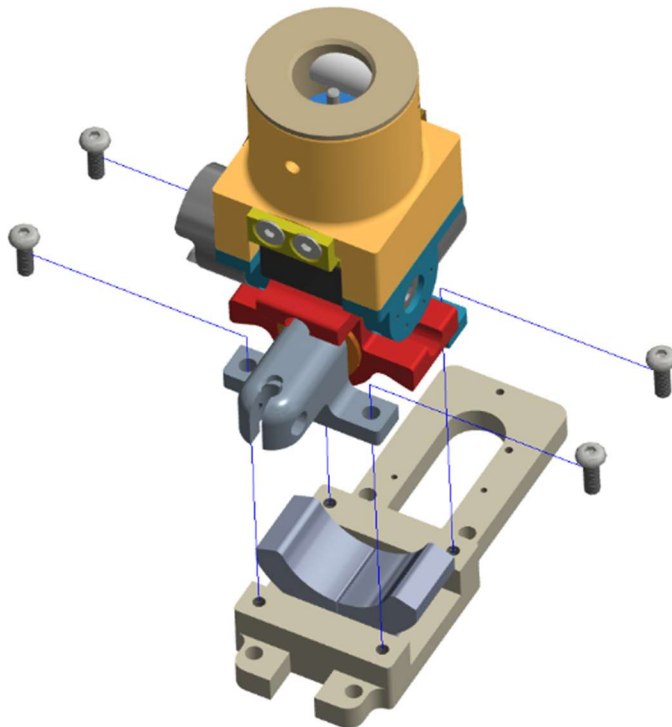

Figure 10-47. Assemble the Lower Ankle Plate (474-5806-1,2) to the ankle
10.3.12 Assemble the Lower Ankle Plate (474-5806-1,2) to the ankle using four M4 X 0.7 X 12 LG. BHCS (Figure 10-47).